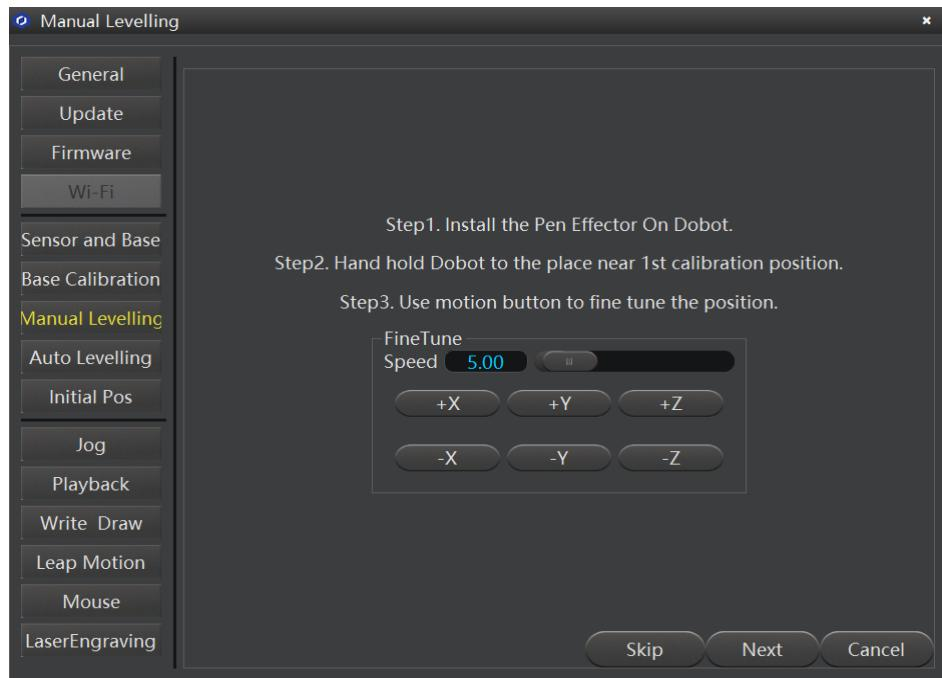
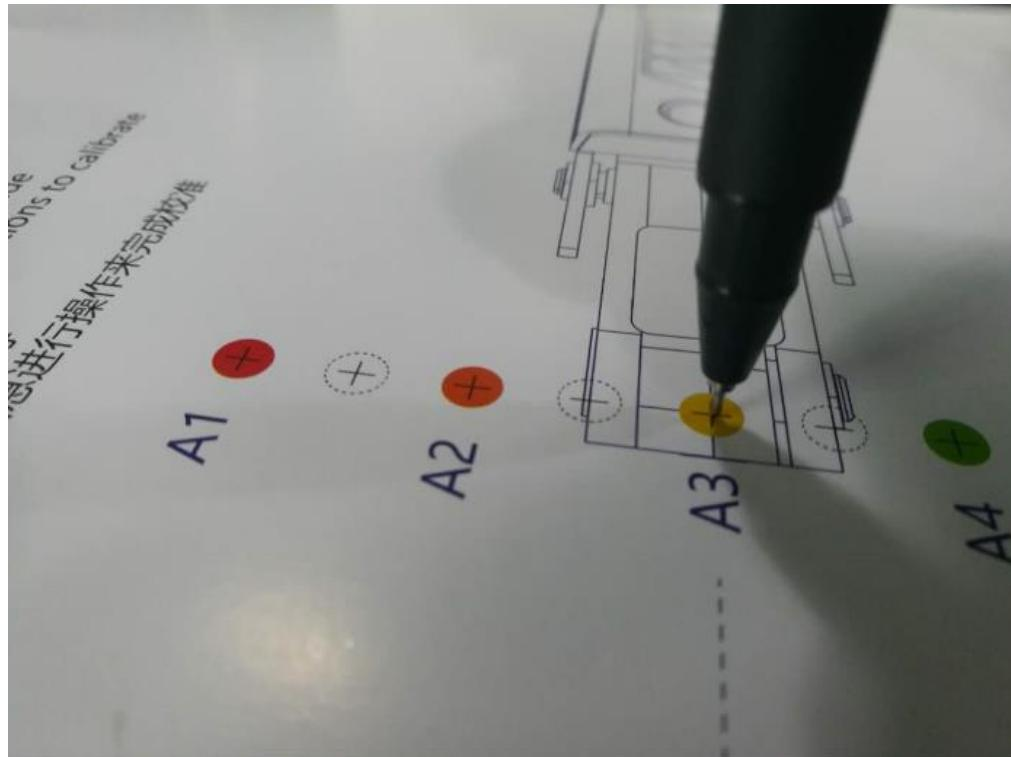

Figure 5.148 Fine-tune page
Figure 5.149 Nib position
3. Click coordinate buttons on the **Manual Levelling** page (as shown in Figure 5.148) to make the nib align to the center of A3 point on the calibration board, as shown in Figure 5.149.